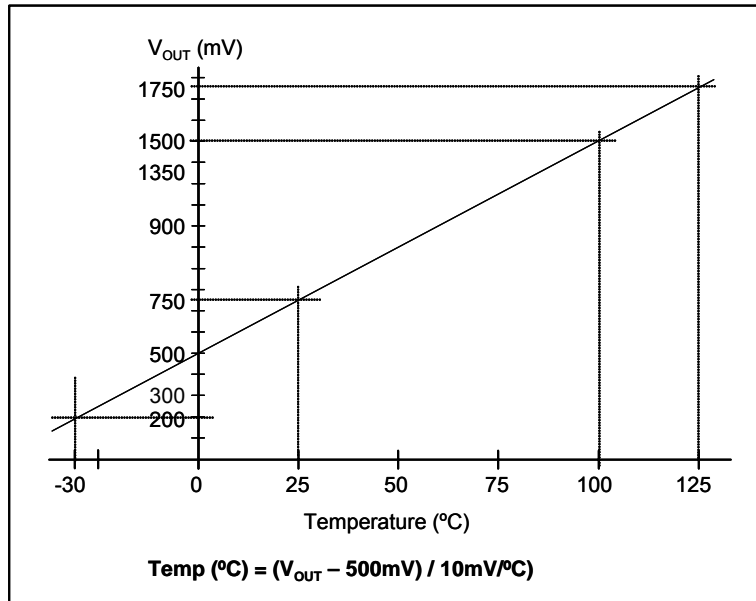

Figure 1. aSM121 Output Voltage vs. Temperature
4. Accuracy (expressed in °C) = Difference between calculated output voltage and measured output voltage. Calculated output voltage = 10mV/°C multiplied by device's case temperature at specified conditions of temperature, voltage and power supply with an offset of 500mV (see Fig. 1).